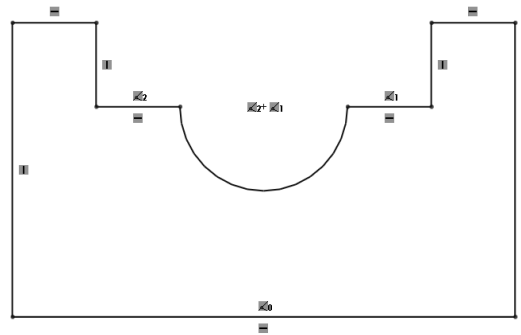

Figure 2-59 Final sketch for Tutorial 2
- d. Draw the sketch using the **Line** tool, refer to Figure 2-59.
18. Press the F key to modify the drawing display area. The final sketch for Tutorial 2, without the grid display, is shown in Figure 2-59.